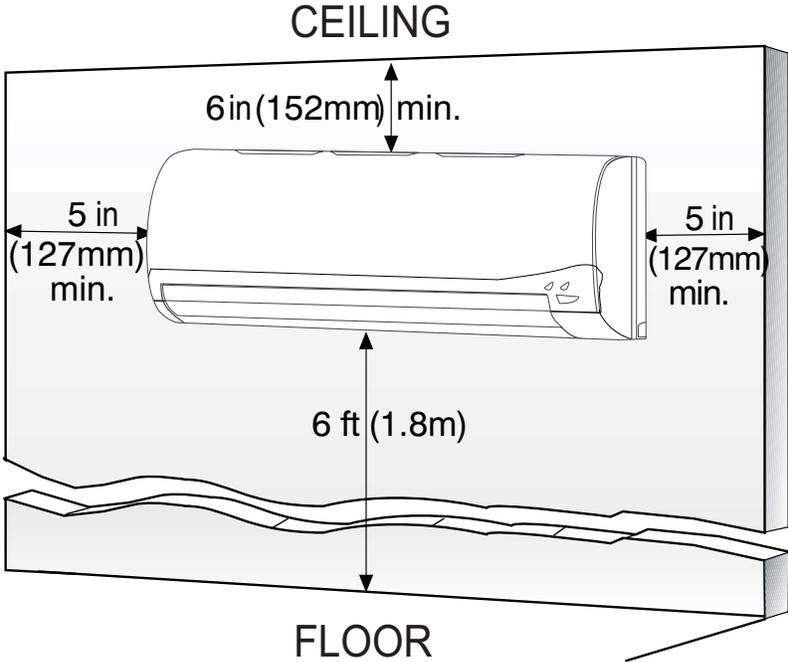

Fig. 6 – Indoor Unit Clearance
Allow sufficient space for airflow and servicing unit. See Fig. 6 for minimum required distances between unit and walls or ceilings.
- A location which provides appropriate clearances (see Fig. 6.)
2. The mounting plate should be located horizontally and level on the wall. All minimum spacings shown in Fig. 6 should be maintained.